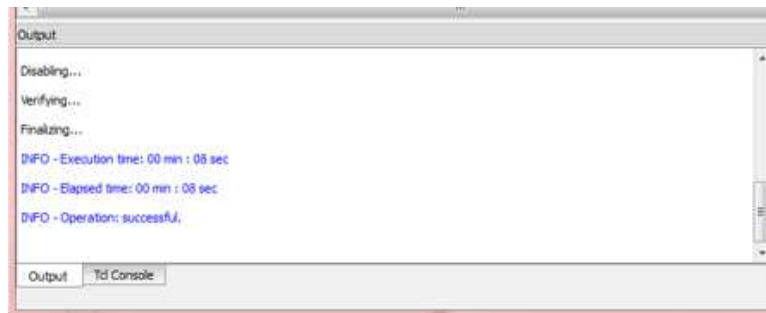

Figure B.5. Output Console
6. After successful programming, the Output console displays the results as shown in Figure B.5